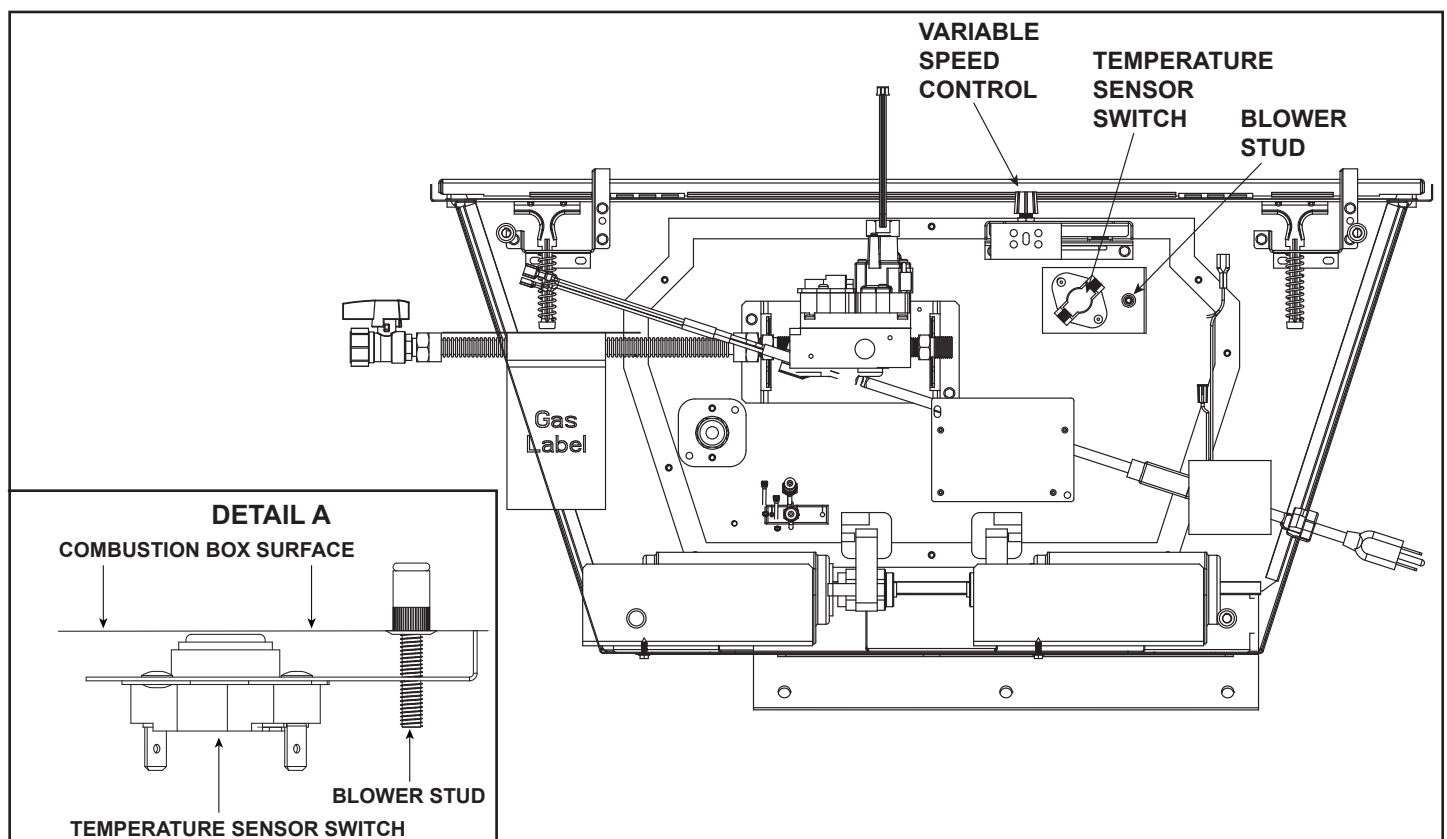

Figure 6.
1. Slide the variable speed control behind the control panel. With the stem sticking out of the pre-punched hole, attach the locknut tightly and reattach the knob on the stem. See Figure 6. Turn the speed control switch to the "ON" position.
NOTICE: The blower stud is located on the bottom of the combustion box. See Figure 6.
NOTICE: The temperature sensor switch must be installed so that the sensor switch is facing the combustion box surface. See Detail A of Figure 6.